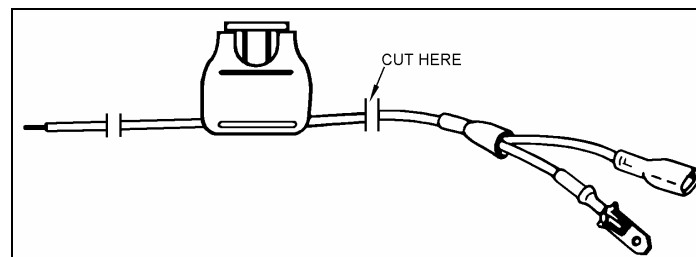

Figure 7
- 3 - Cut the two wires that split off the fuse holder cable assembly as close to the heat shrink wrap as possible and strip 1/4" of insulation off the resulting single wire. See Figure 7.